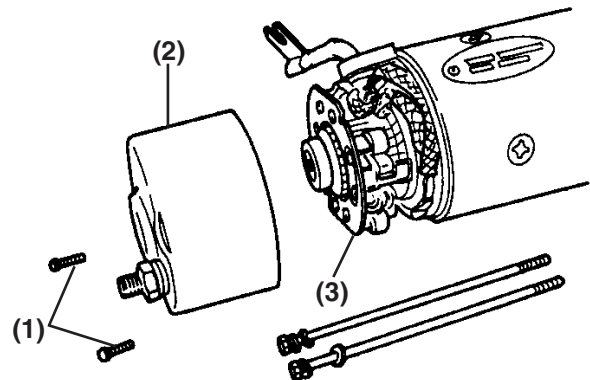

Figure 4-6-32
11. Carefully reinstall the brush holder (**Figure 4-6-32, (3)**) assembly.
12. Reinstall the rear cover (**Figure 4-6-32, (2)**) and secure with two bolts (**Figure 4-6-32, (1)**).